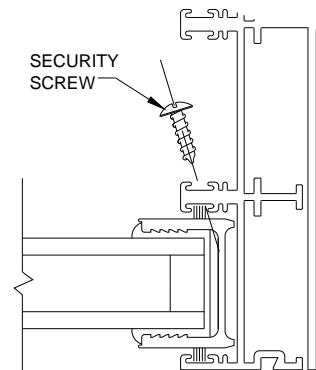

Figure 28:
- **“O” Panel-** Lift and move the panel into the fixed jamb as far as possible. Verify that the weather stripping in the frame head is located so that it contacts the width of the “O” panel. Installing the fixed panel security screw: Using a 1/16” diameter bit, drill a hole into the fixed stile through the hole shown in Figure 28. Then insert a black #8 x 3/4” self threading screw.